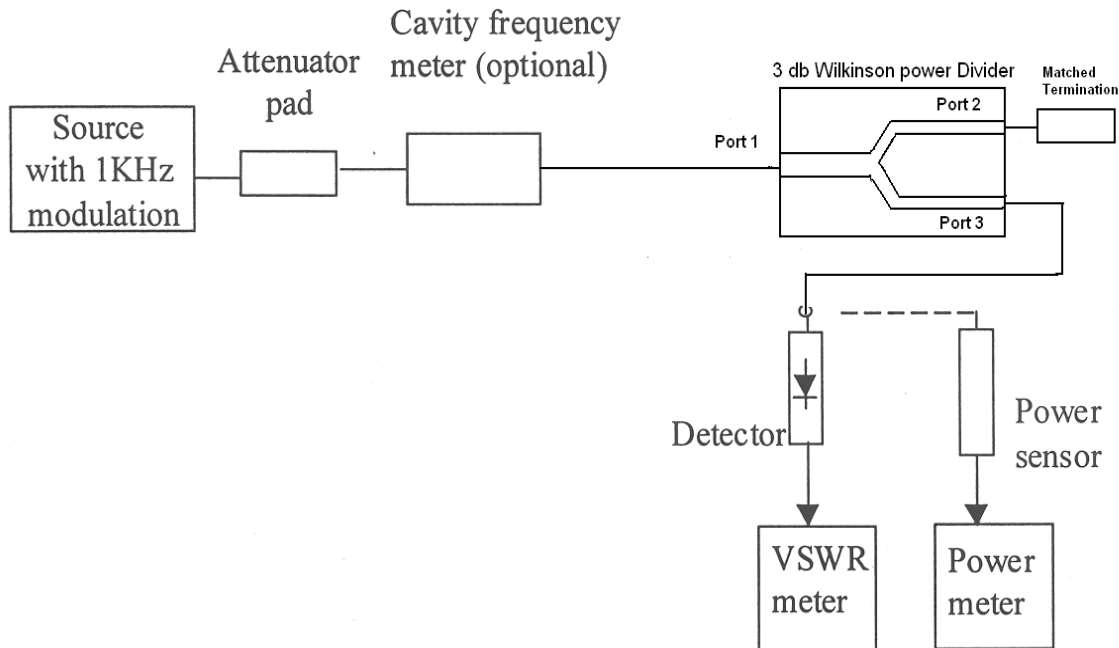

Figure. 3
1. Assemble the set up as shown in figure 3.